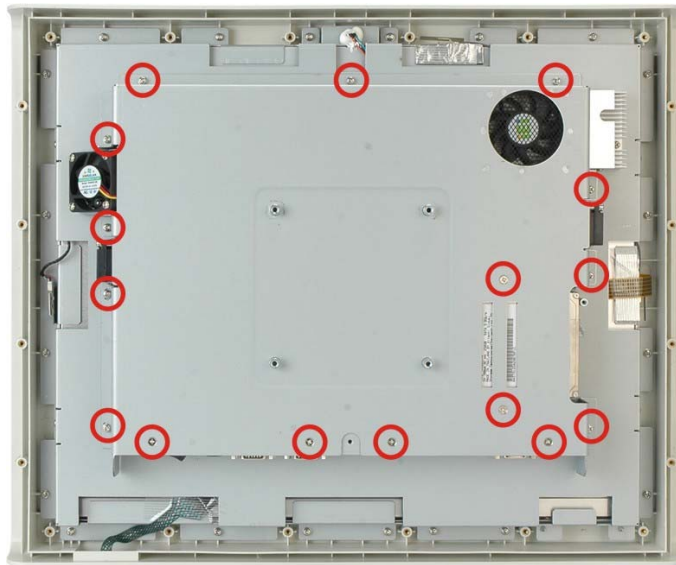

Figure 3-2: Aluminum Back Cover Retention Screws
Step 2: **Figure 3-2** shows the aluminum cover retention screws of the POC-17i/19i Series.